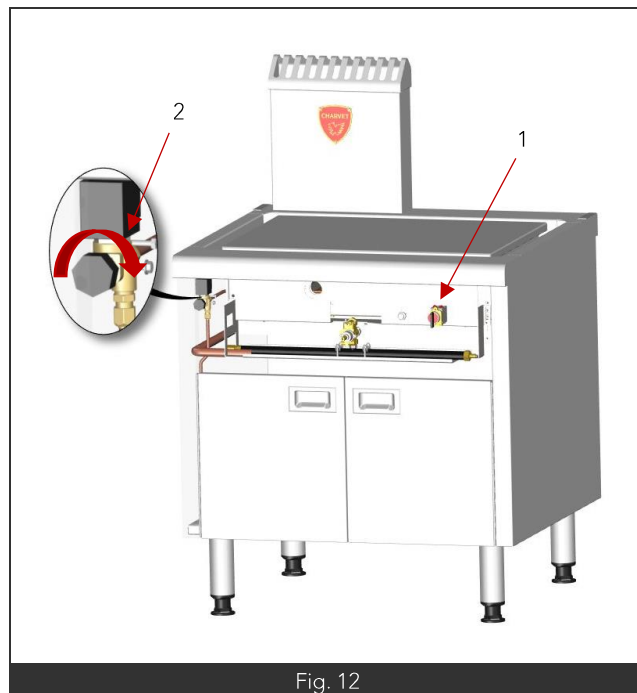

Fig. 12
- Turn the switch (Fig. 12 Item 1) to position  to operate the water run-off.
- Turn the screw clockwise (Fig. 12 item 2) to decrease the flow.